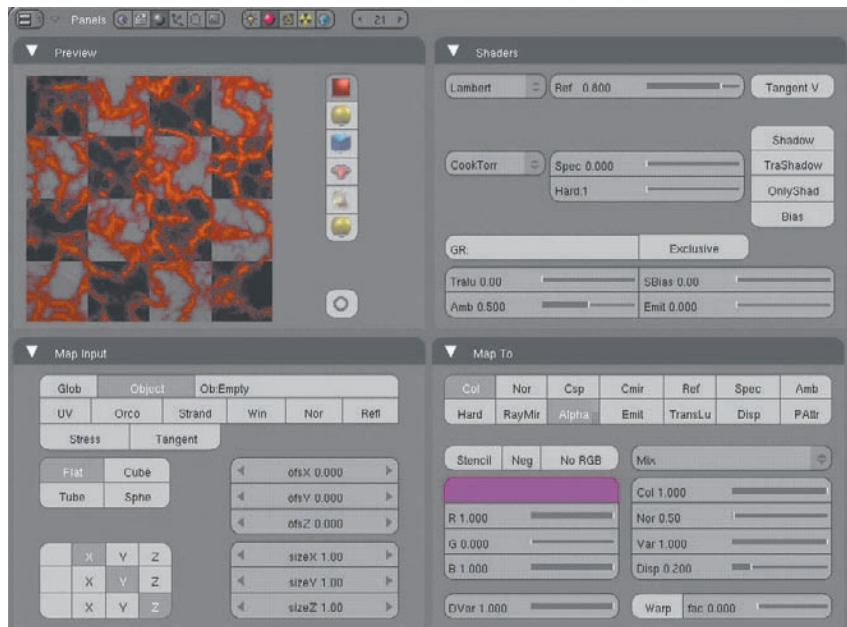

Figure 2.33 Flame texture mapping
7. The texture mapping and shader values for the Flame material are shown in Figure 2.33. In the Map Input tab, set the mapping to Object and type **Empty** (the name of the Empty object you added in step 4) in the field. Set the Map To options to Col and Alpha, so that the material will get its color values and alpha values from the texture. In the Shaders tab, deselect all the option buttons along the right-hand side of the tab. These are concerned with shadow casting and receiving, and should be turned off for something like a flame. Finally, turn the Spec (specularity) down to 0 and Hard (hardness) as low as it goes. Fire isn't shiny.